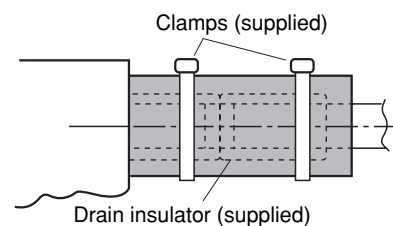

Fig. 3-64
- (2) After connecting the drain piping securely, wrap the supplied packing and drain pipe insulator around the pipe, then secure it with the supplied clamps. (Fig. 3-64)